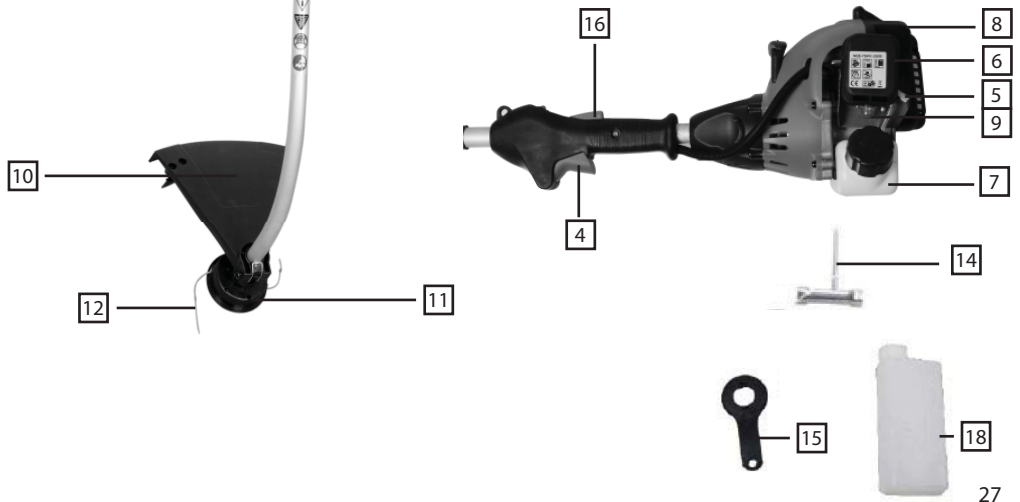

Bild 1
Completely unscrew the plastic knob at the lower part of the trimming tube (fig. 1) and remove the complete string magazine from the shaft (fig. 2). Use the supplied hexagon socket wrench to loosen the hexagon socket screws of the protective hood connection (fig. 3). Now you can remove the protective hood for the string (10).
Completely unscrew the plastic knob at the lower part of the trimming tube (fig. 1) and remove the complete string magazine from the shaft (fig. 2).